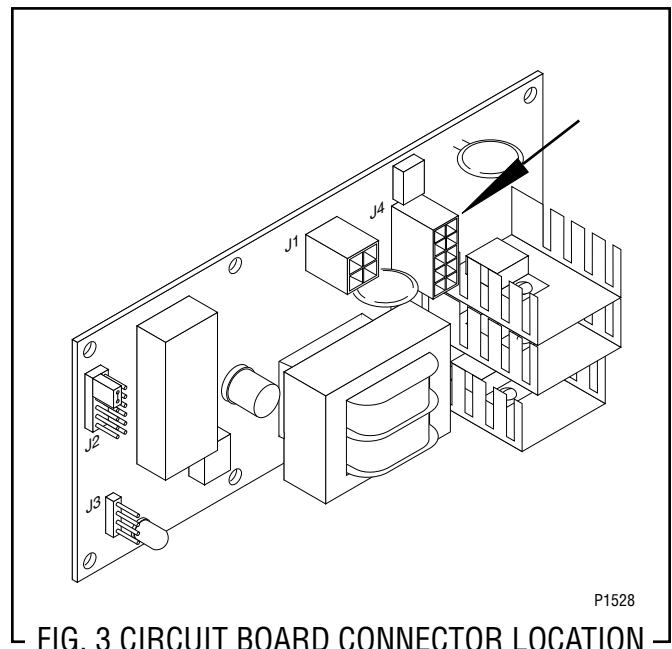

FIG. 3 CIRCUIT BOARD CONNECTOR LOCATION
8. Refer to Fig. 3 for circuit board ten pin connector.